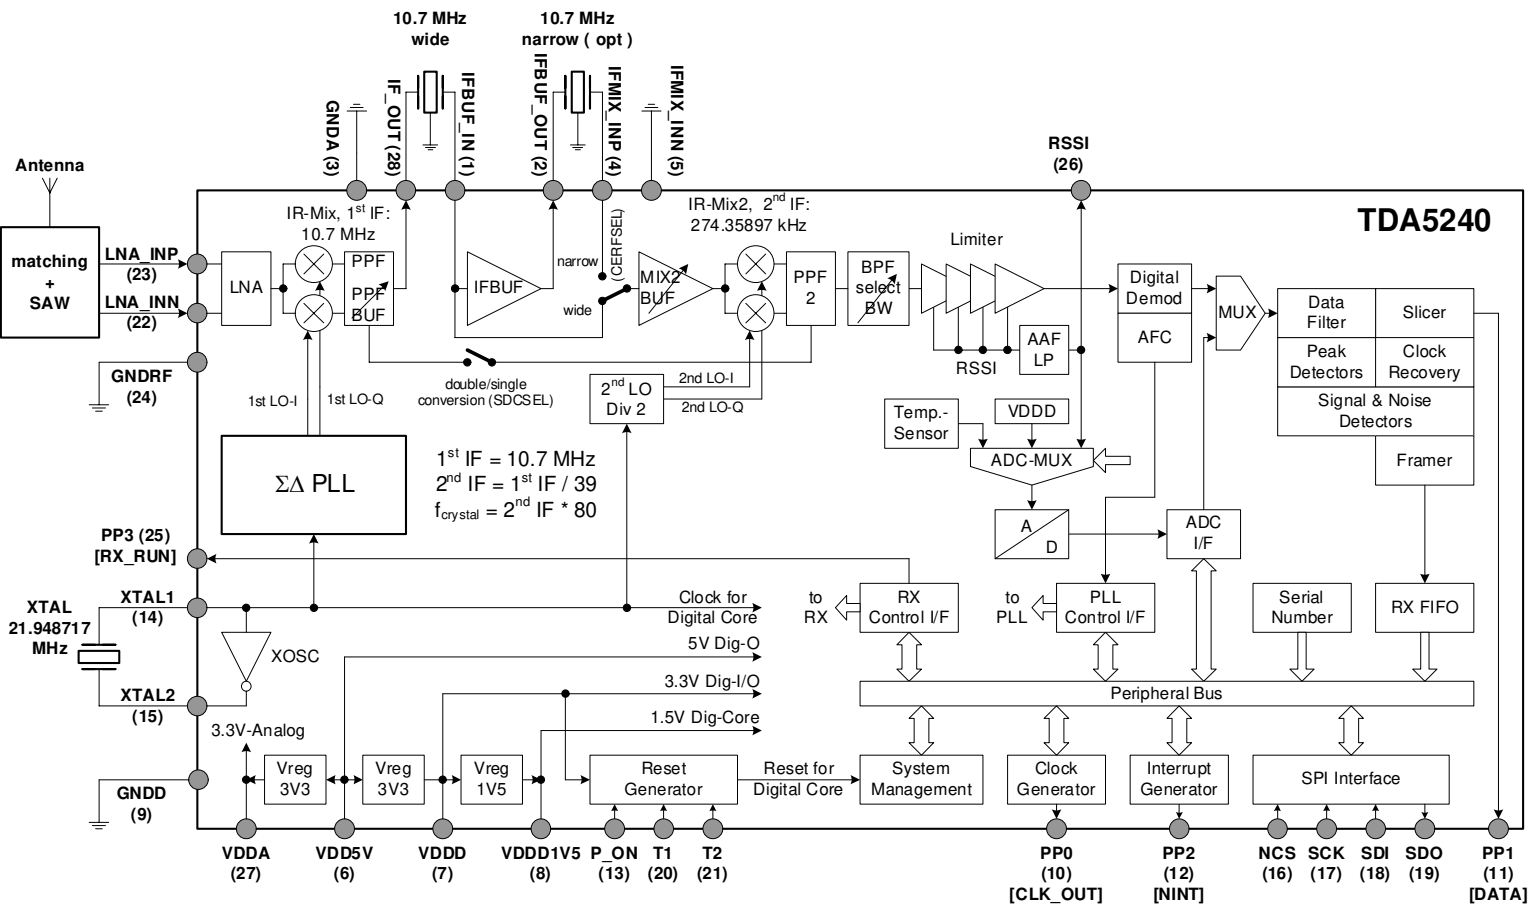

Figure 2 TDA5240 Block Diagram 1)
1) The function on each PpX port pin can be programmed via SFR (see also Table 1). Default values are given in squared brackets in Figure 2.